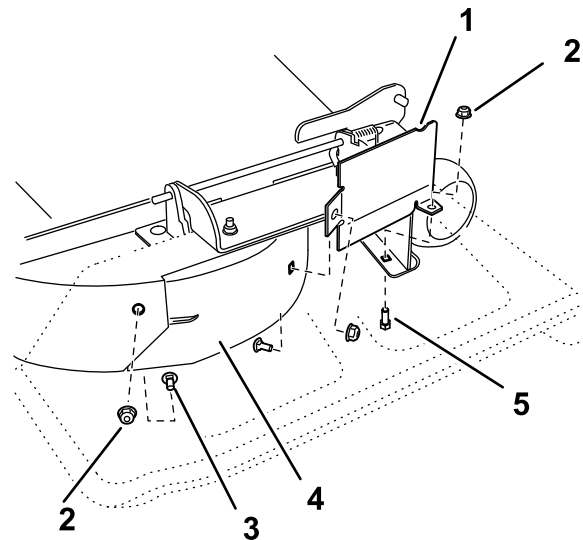

Figure 4
- Secure the rear wall of the right baffle to the mower deck using 1 carriage bolt (5/16 x 3/4 inch) and nut (5/16 inch) as shown in Figure 4.